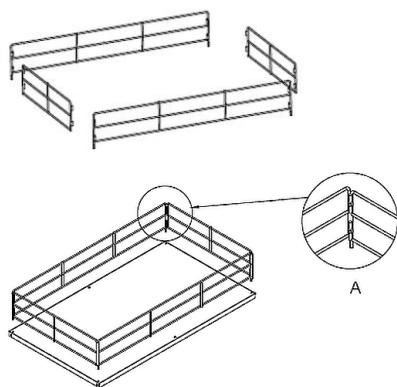

Fig. 1
1. First, assemble the railings for the top shelf. Connect the front and side parts of the railing with the use of mounting screws (Fig. 1, A).